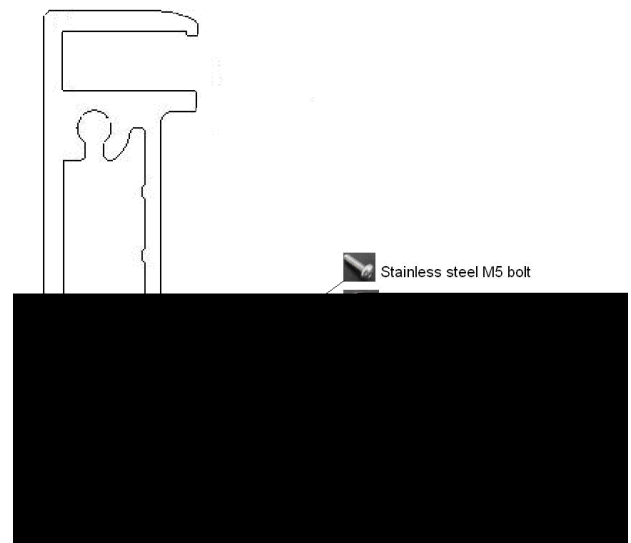

Fig. 18 Grounding the aluminum frame with copper wire
corrosion-resistant aluminum alloy frame as a rigid support. To ensure safety and to avoid lightning strikes and electrostatic damage to the PV modules, the PV module frame must be earthed. The earthing device must be in full contact with the interior of the aluminum alloy of the frame, penetrating the surface oxide film. The following is the specific grounding method, as shown in Fig. 18.
- Use the marked 5.5 mm grounding holes to ground the anodized frame. Use one M5 nut, two M5 cut washers, one M5 plain washer, one M5 spring washer, and one M5 bolt and the copper wire. All nuts, bolts, and washers shall be of type M5 and made of stainless steel (Fig. 18).